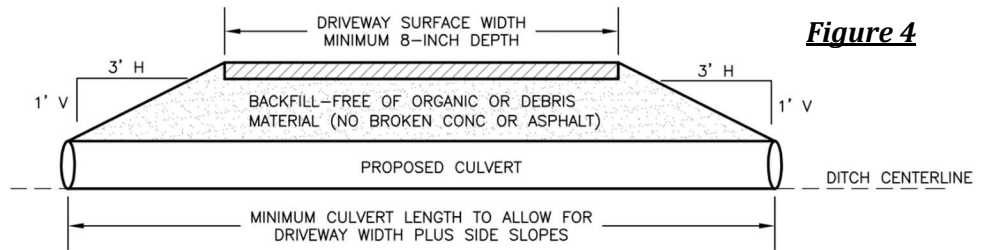

Figure 4
- b. A 3-ft horizontal to 1-ft vertical slope is required from the driveway aggregate edge down to the top of the culvert. Therefore, a longer culvert may be required in some cases, as shown in **Figure 4**.